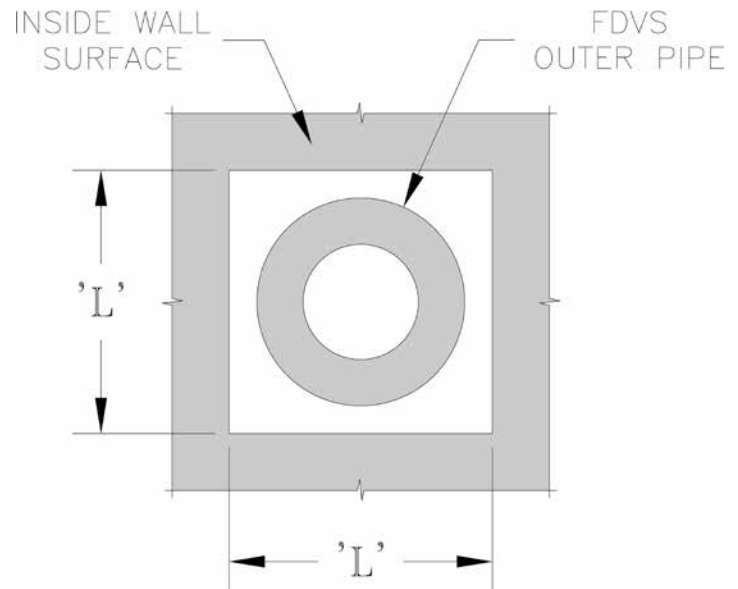

Figure 17: Wall Cutout Dimensions
B. INSTALLATION OF THE VENT HOOD TERMINAL (see Figures 17, 18, 19 and 20)
5. After determining the location of the venting system termination, cut the square hole in the wall sized according to "L" dimension in Table 5, see Figure 17.